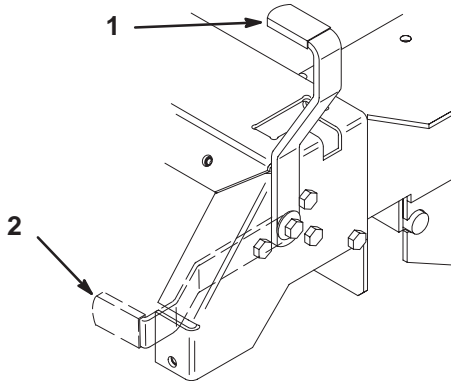

Figure 14
1. Move the motion control levers (Fig. 14) out to the neutral lock position.
2. Pull back and up on the parking brake lever to set the parking brake (Fig. 14). The parking brake lever should stay firmly in the Engaged position.
Push forward and down on the parking brake lever to release the parking brake (Fig. 14). The parking brake is disengaged.